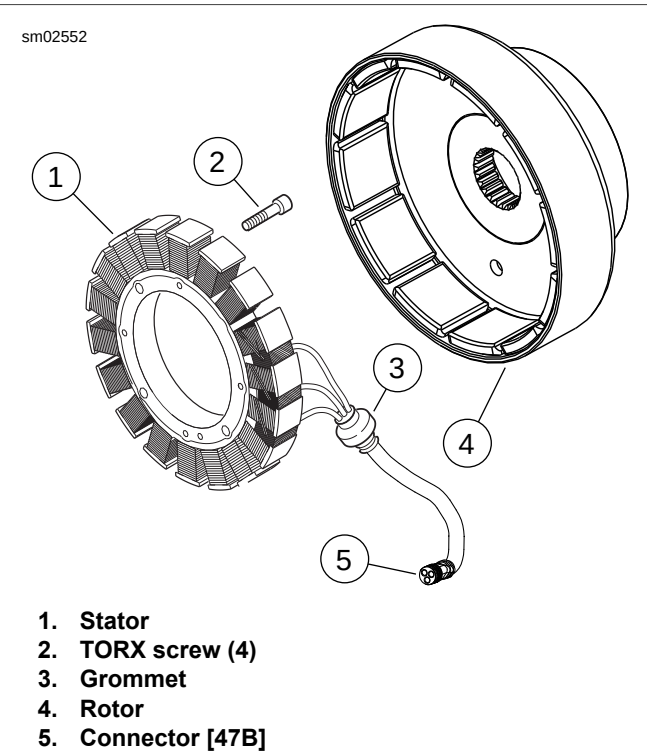

Figure 7-81. Rotor and Stator (Typical)
4. See Figure 7-81. Remove alternator rotor (4). Two bolts can be inserted through the holes in the rotor face to aid during removal.
See Figure 7-81. Use contact cleaner, alcohol or glass cleaner in the next step as a lubricant.
2. See Figure 7-81. Push rubber grommet (3) with wires through crankcase hole. If necessary, apply the same lubricant used during removal.
3. Install the stator (1) on the crankcase and fasten in place using **new** TORX screws. Tighten to 55-75 in-lbs (6.2-8.4 Nm).
4. Mate connector [47] (5) onto voltage regulator and engage latch to secure. See 7.23 VOLTAGE REGULATOR.
5. Install rotor (4) on the sprocket shaft.